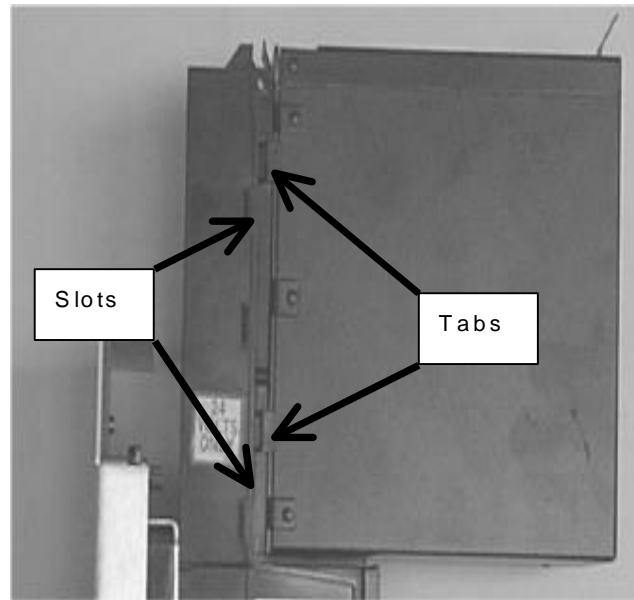

Figure 18. Bill Stacker
24. Align the tabs on the bill stacker just above the slots on the bill validator. (See Figure 18)